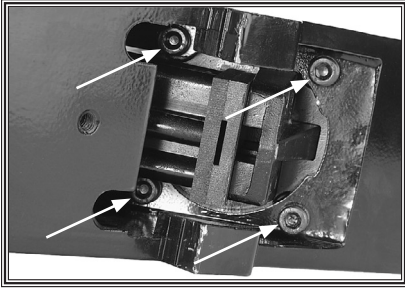

Figure 6. Cap screws that secure the base to the stapler body.
- Use a 5mm hex wrench to remove the four cap screws that secure the base to the stapler body (see **Figure 6**).